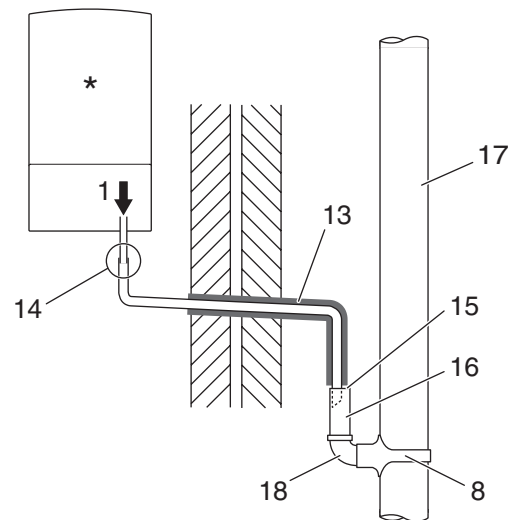

Fig. 12 Disposal into a rainwater down pipe
- Refer to figure 12 when a rain water down pipe, that goes directly into a sewer that carries both rainwater and foul water, is used to dispose of condensate.